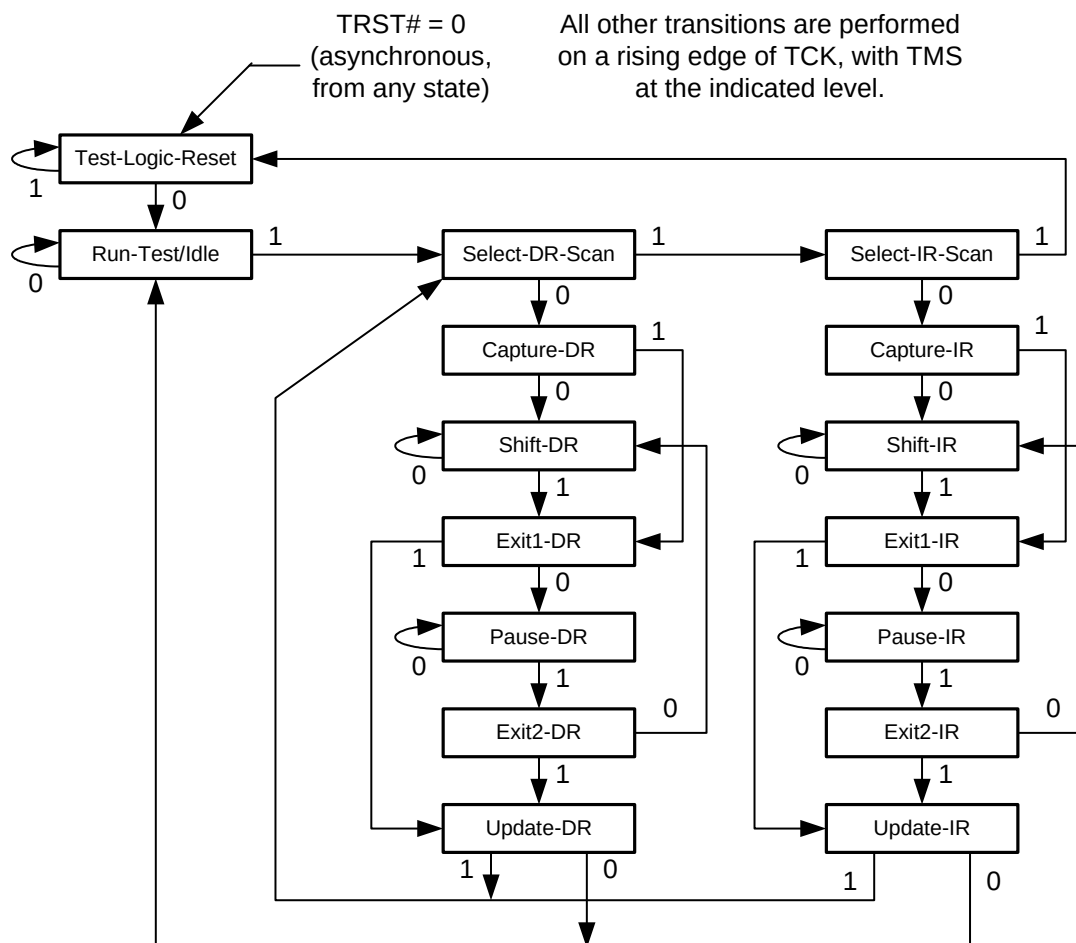

Figure 13.4 TAP Controller State Diagram
The JTAG protocol is driven by the level of the TMS (Test Mode Select) input pin at each rising edge of the JTAG\_CLK clock. This is the responsibility of the TAP Controller section of the JTAG controller, which performs state transitions as illustrated in the state diagram in Figure 13.4. States whose names end with "IR" affect the Instruction register (the rightmost column of states in Figure 13.4), and those ending with "DR" affect a Data register (the middle column in Figure 13.4). Note that the TMS signal goes in parallel to all JTAG ports in a chain, so they are always in the same protocol state. The sequence of accessing any register is as follows:
Outside of Instruction or Data transfers, there are two states which may be entered and held. These are shown in the leftmost column in Figure 13.4.
- The Test-Logic-Reset state holds the JTAG logic in its reset state. This re-initializes the registers that are internal to the JTAG logic. This state is entered asynchronously by assertion of JTAG\_RST# low, and it can be seen in Figure 13.4 that, from any other state, this state will be entered by 5 successive JTAG\_CLK cycles with TMS held to '1'.
The TAP Controller changes states on each rising edge of JTAG\_CLK, traversing the state table in Figure 13.4 as directed by the TMS input signal from the external interface.